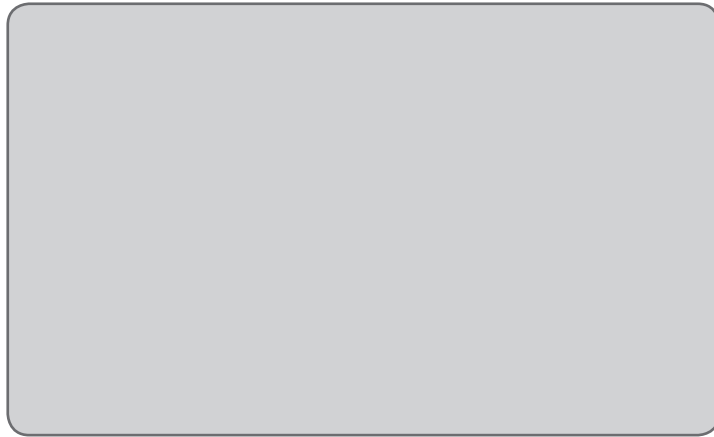

Figure 29: The distal straps fastened.
5. Fasten the FS Cuff distal straps, and tighten the straps to fit. See Figure 29.